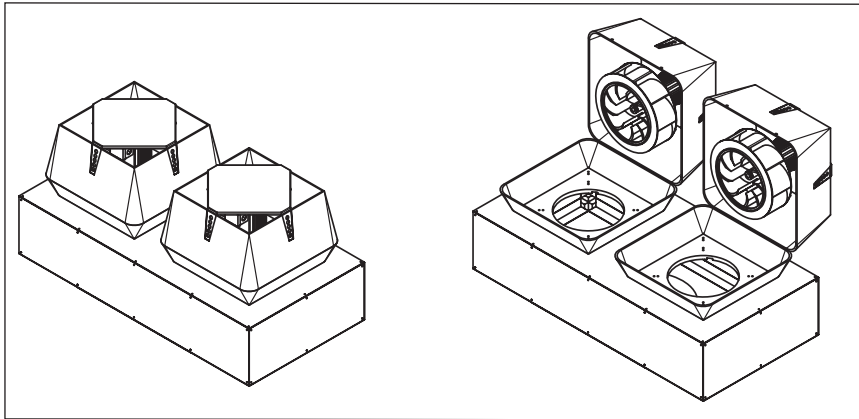

Fig. 8
- Fig. 8 shows optimal placement.